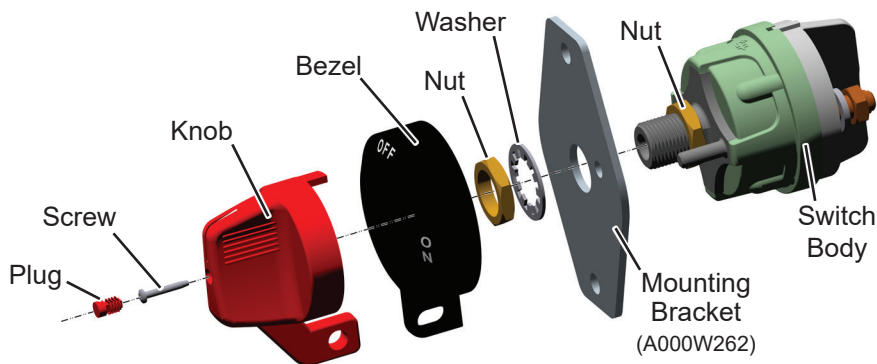

Figure 5. Battery Disconnect Switch Assembly
17. Remove plug, screw, knob, bezel, nut and washer from battery disconnect assembly (A000W209). See Figure 5.